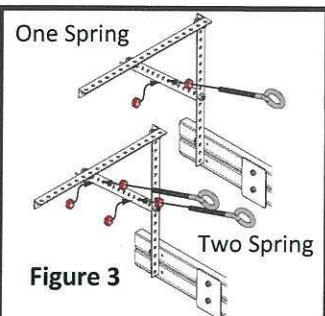

Figure 3
Step 3: Attach the Eye Bolt to the right side diagonal Hanger Angle using (2) 5/16" RED nut (Fig 3). One Red nut goes to the inside and one to the outside to lock the Eye Bolt in place. If your door comes with (4) Extension Springs, you will need (2) Eye Bolts and (4) nuts.